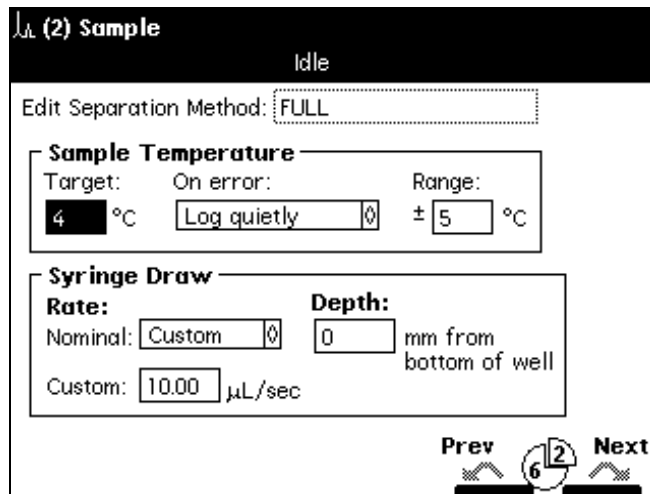

Figure 5-9 Sample Screen
1. Press the **Next** or **Prev** screen key (as appropriate) to display the Sample screen (Figure 5-9).